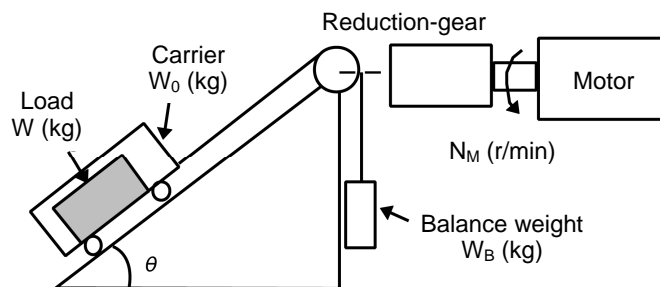

Figure 9.8 Inclined Lift Load
If the incline angle is  $\theta$ , and the friction coefficient is  $\mu$ , as shown in the Figure 9.8, the driving force  $F$  (N) is expressed as follows: